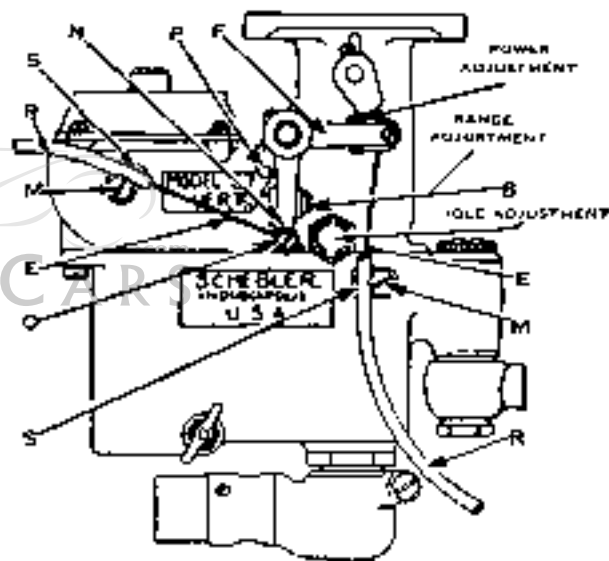

Fig. 7
Control Hook-up. When using the loose lever (N, Fig. 7) the control tubing (R) is fastened in clamp (S) with screw (M) on side of body just below the air funnel. Fasten the control wire (E) in the binding post (O) on loose lever (N) with the throttle closed allowing 1/16" play between the loose lever (N) and the boss it strikes against on lever (P).
Idle Adjustment. Turn the idle adjusting knurl (Fig. 7) to the right for a lean mixture, and to the left for a rich mixture. To check the idle adjustment, warm up the motor thoroughly and by this we mean to have a hot motor. Then close the throttle, retard the spark all the way if car has manual spark control and then adjust idle stop screw so that motor will not idle less than five miles per hour on the road. After you have the